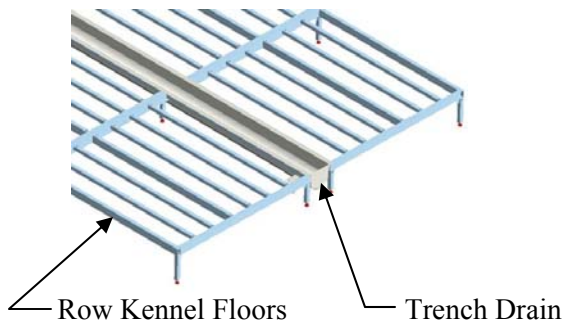
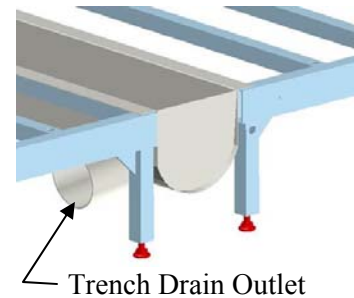

Figure 5A
Figure 5B
4. Lay out the trench drain section(s) into position between the two rows of floors (**Figure 5A**). The drain sections are configured according to your facility layout sign-off drawing (**Figure 5B**). Please check to make sure your drain location matches with the sign-off drawing.